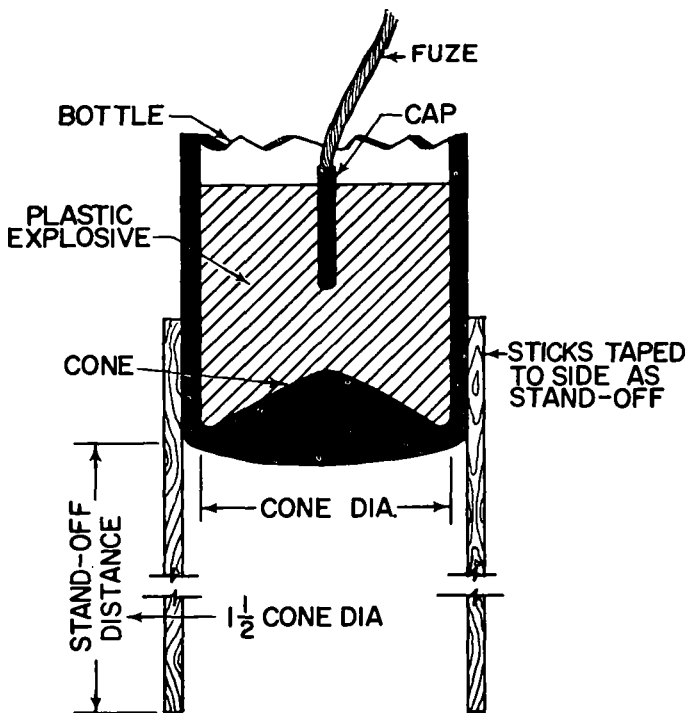

Figure 122. Improvised shaped charge.
b. *Shaped Charges.* Shaped charges are easily and readily improvised. Because of the many variables, such as explosive density, configuration, and density of the cavity liner, consistent results are impossible to obtain. Thus experiment, or trial and error, is necessary to determine the optimum standoff distance. Plastic explosive is best suited for this type of charge. Almost any kind of container is usable (fig. 122). Bowls, funnels, cone-shaped glasses (champagne glasses with the stem removed), and copper, tin, zinc, or cardboard may be used as cavity liners. Bottles